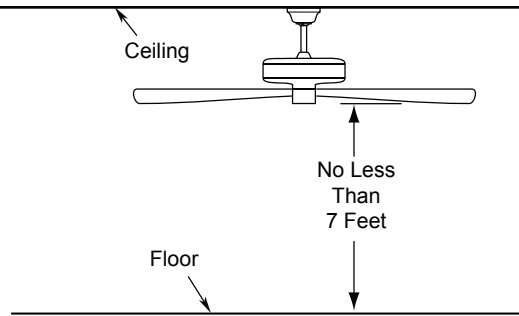

Figure 2
- ☐ 2. Remove the hairpin clip and clevis pin from the bottom of the downrod. Retain the pin and clip for reinstallation in Step 4. (Figure 2)
The fan must be hung with at least 7' of clearance from floor to blades. (Figure 2)
To avoid possible electrical shock, be sure electricity is turned off at the main fuse box before wiring. (Figure 2)